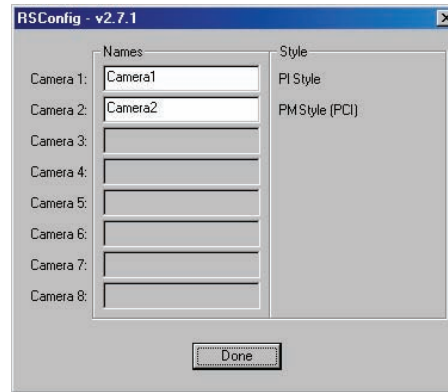

Figure 63. RSConfig dialog box: Two Camera Styles
4. Run RSConfig.exe (accessible from the **Windows|Start|Programs|Roper Scientific** menu). If the PhotonMAX camera is listed as Camera 2 (PM Style) in Figure 63, you will have to edit the PVCAM.INI file. Refer to *"Editing the PVCAM.INI File"*, page 75, for instructions.